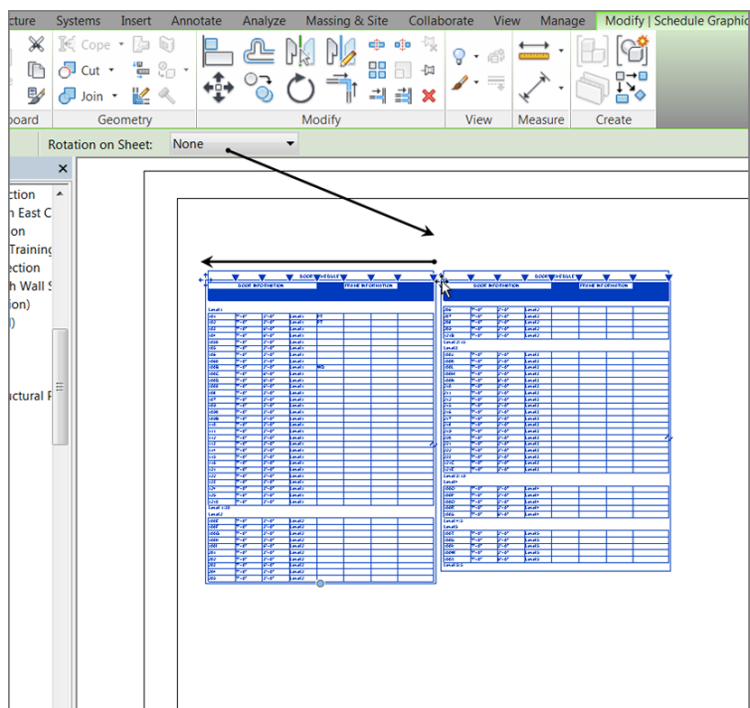

FIGURE 11.21: You can rotate the schedule on the sheet, and you can also join the columns back together if you need to.
On the Modify | Schedule Graphics tab is a Rotation On Sheet menu on the Options bar, as shown at the upper left in Figure 11.21. You don't need to change the rotation—just note that it's there.
2. Also notice the blue move grips in the upper-left corners of the schedules. If you pick one and drag the column back over the top of the other, the columns automatically join back together (see Figure 11.21).